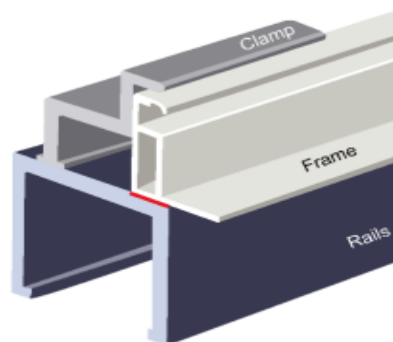

Figure 9: —The frame must overlap the rails completely or the overlapping distance must $\geq 20\text{mm}$
- For installation where mounting rails run parallel to the frame, the frame must overlap the rails completely or the overlapping distance must $\geq 20\text{mm}$. As shown in Figure 9.